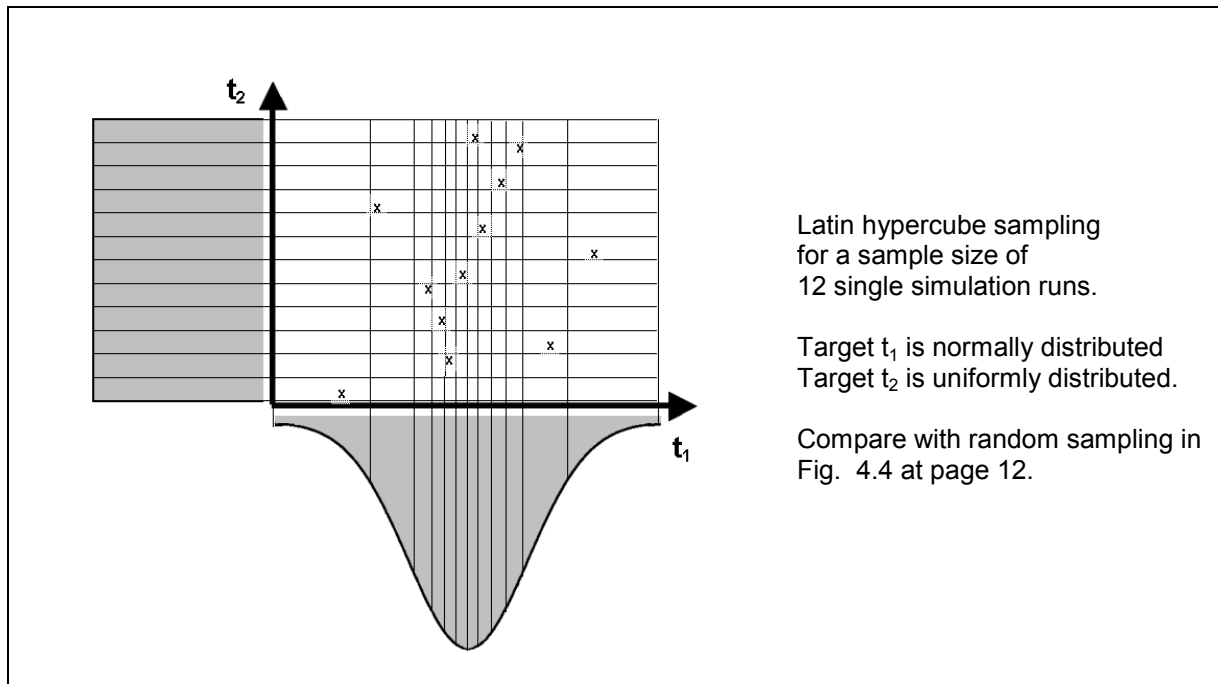

Fig. 6.1 Monte Carlo analysis: Latin hypercube sampling
- In random sampling, there is no assurance that sampling points will cover all regions of the selected distribution. With Latin hypercube sampling LHS this shortcoming is reduced: The sampling range of the target is divided into <nr\_of\_runs> intervals of equal probability according to the selected distribution and from each interval exactly one sampling point is drawn. For more information on LHS check Fig. 6.1 below and see Imam & Helton (1998) and Helton & Davis (2000).